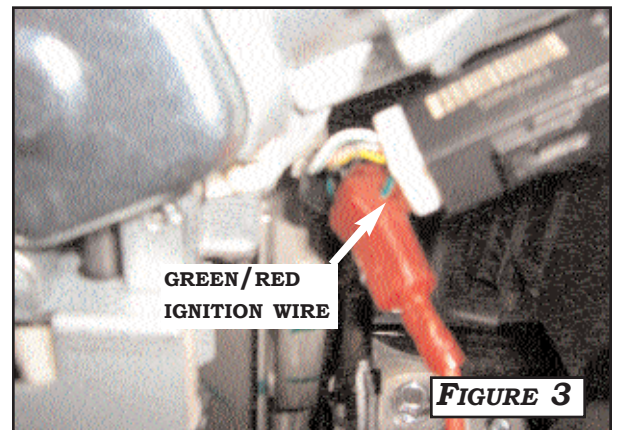

FIGURE 3
1. LOCATE THE WHITE CONNECTOR AT THE IGNITION SWITCH. CONNECT THE **RED IGNITION WIRE (+12V IGNITION)** FROM THE MAIN CRUISE HARNESS TO THE **GREEN/RED WIRE** OF THE IGNITION SWITCH CONNECTOR. **FIGURE 3**